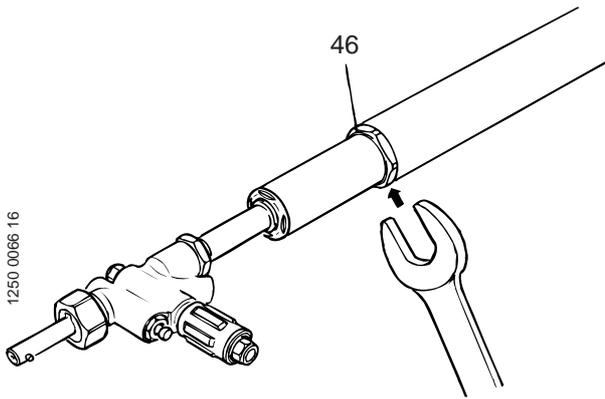
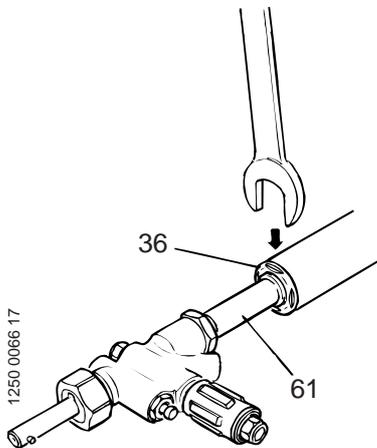

Fig. 2
Fig. 3
1. Clamp the pusher leg in a machine clamp (or vice with soft jaw linings). Remove the hose clamps (52), which secure the handle (51). **N.B.** To avoid the risk of deforming the cylinder barrel (64), do not tighten the clamp or vice too much.
2. Remove the upper guide socket (46) using a 90 mm combination spanner. See fig. 2.
3. Pull out the piston rod (61) and cylinder barrel (63) as a complete unit.
4. Clamp the cylinder barrel (63) in a machine clamp (or in a vice fitted with V-jaws). Remove the guide socket (36) using a 65 mm combination spanner (see fig. 3) and pull out the complete piston rod (61).